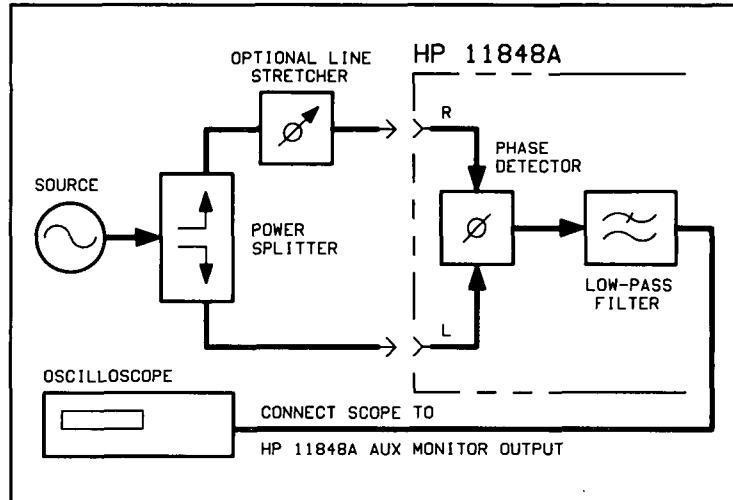

Figure 4-9. Connection to Optional
1. Connect circuit as per Figure 4-9, and tighten all connections.